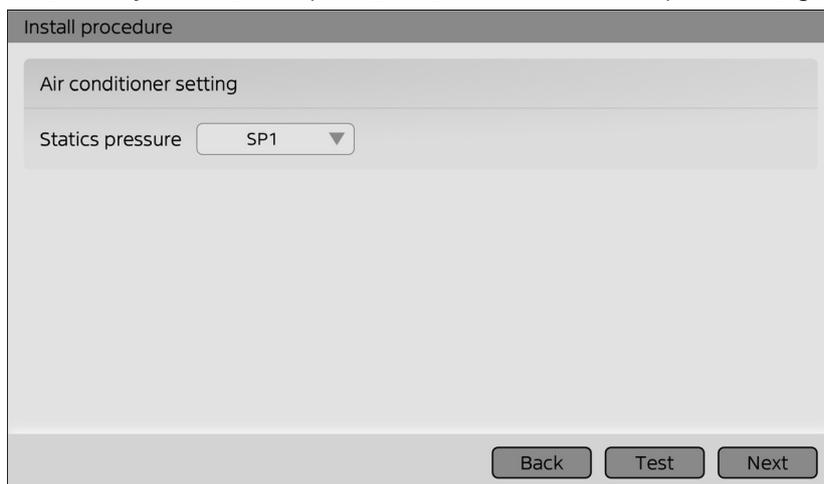

Fig 1.9
14. Set **[Static pressure]** level, press **[Test]** button to test static pressure. (Fig 1.9).